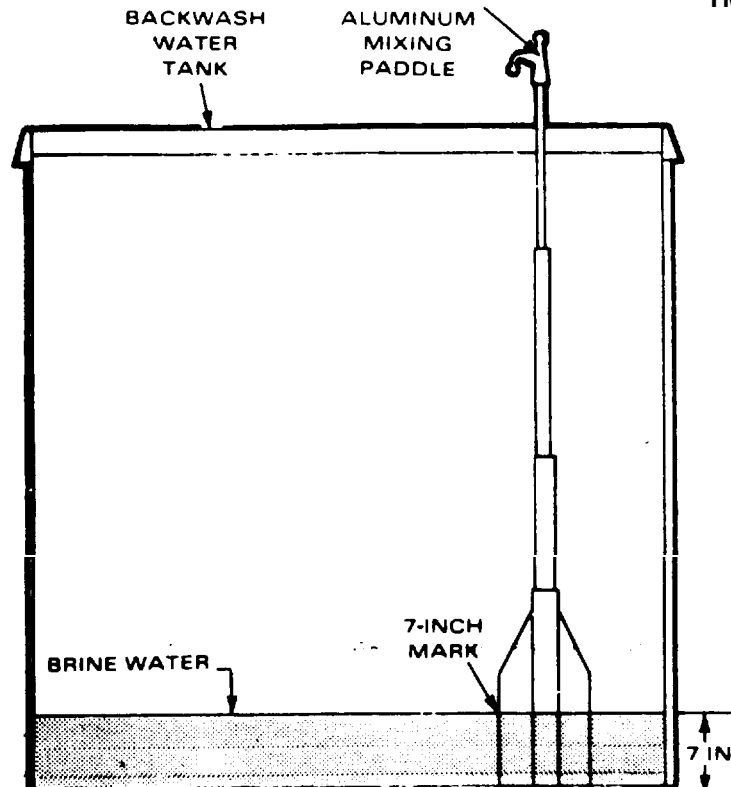
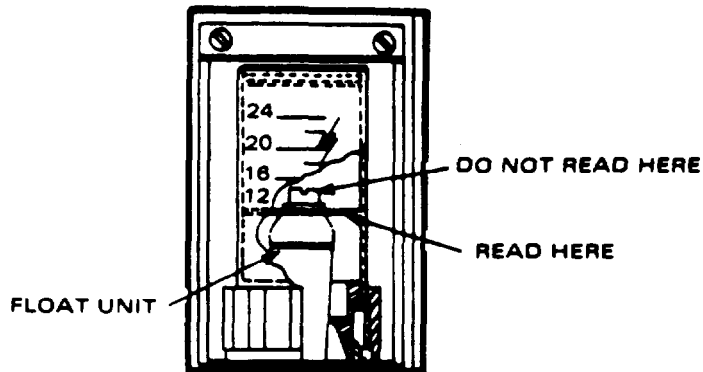
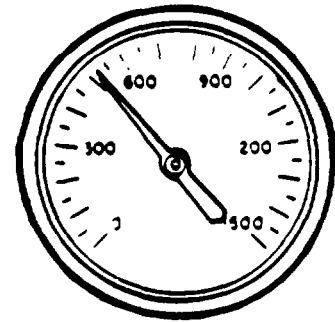

Figure 2-72. Backwash Water Tank
Figure 2-73. Product Water Flow Indicator
Figure 2-74. R.O. Pressure Gage
(2) Solid-State Timer (Model No. 600-3). The solid state timer is approximately 8 inches high, 10 inches wide and 6 inches deep. Protruding from the rear of the timer is the pilot controller and solenoid valve (fig. 2-73). Inside is a black RESET button and an INTERNAL INDICATOR knob mounted to a subpanel (view 1, fig. 2-74).
(c) Remove the subpanel to access the four 10-position rotary switches (view 2, fig. 2-74) used to set the duration (in minutes) of each phase of the backwash cycle. Ensure settings are as follows:
- (3) Check water level in backwash tank. Tank should be full.
- (4) Ensure basket strainer in backwash pump is not clogged.
- (5) Open backwash tank valve.
- (6) Loosen draincock on bottom of backwash pump to prime pump.
- (7) Turn BACKWASH VALVE handle downward to BACKWASH.
- (8) (All models except 600-1) Press RESET button on backwash timer to ensure INTERNAL INDICATOR knob is in service position (view 1, fig. 2-74). (Model 600-1) Ensure white cam in mechanical timer is in SR position (fig. 2-72).
- (9) Push BACKWASH switch up to START position and release immediately.